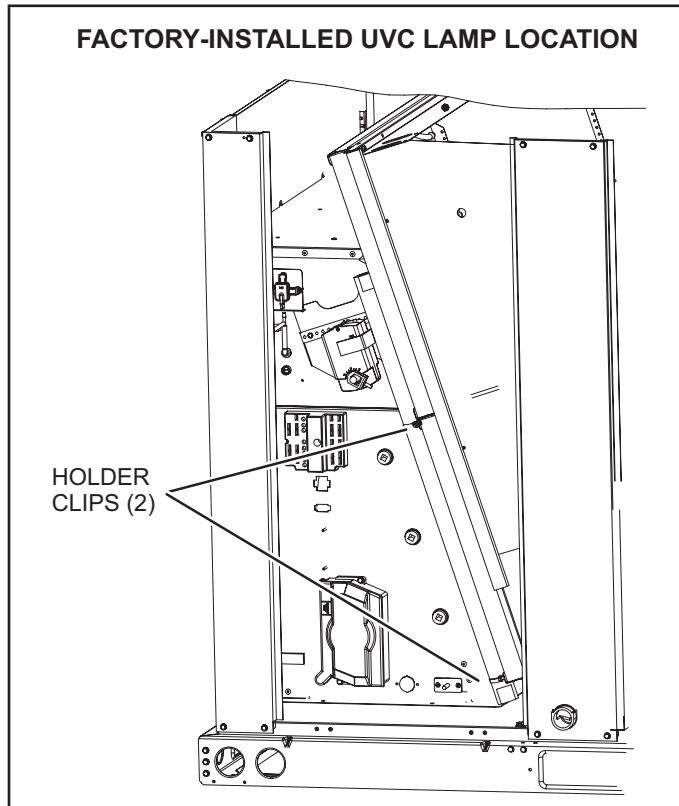

FIGURE 44
- 1 - Cut wire ties and remove the UVC lamp attached to the filter rack. See FIGURE 44.